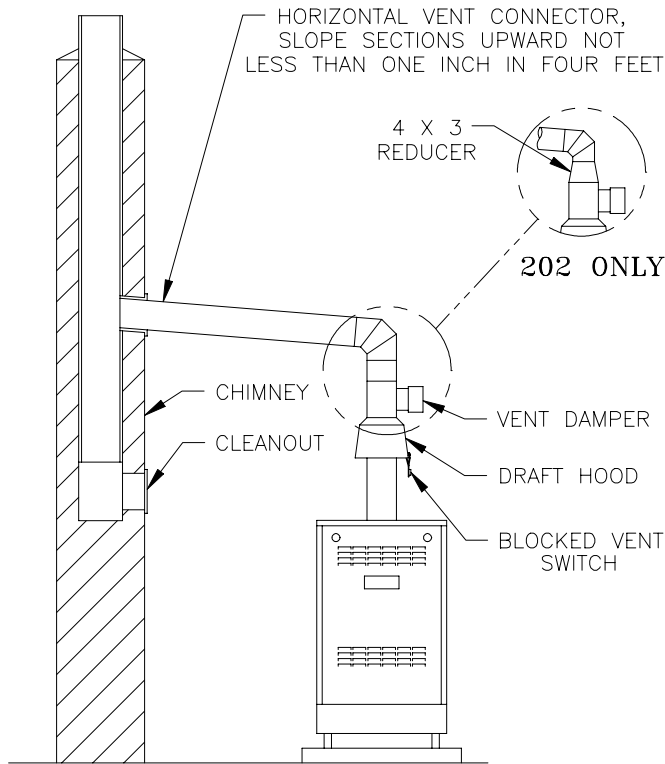

Figure 8: Typical Vent Installation
13. INSTALL VENT CONNECTOR from reducing fitting (202 Only), draft hood or damper to chimney, see Fig. 8.